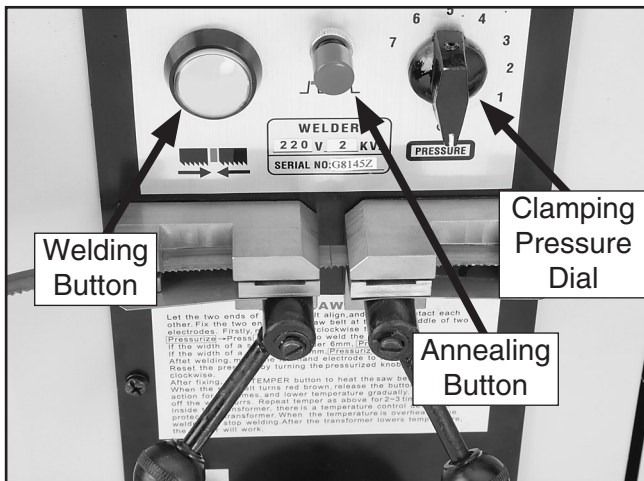

Figure 30. Blade ends in correct position for welding.
- Set the clamping pressure dial to "0" (see **Figure 30**).
- Place the other blade end in the opposite welding clamp and position it so that it evenly butts up against the opposing blade end, then lock it in place by rotating that lock lever all the way up, as shown in **Figure 30**.